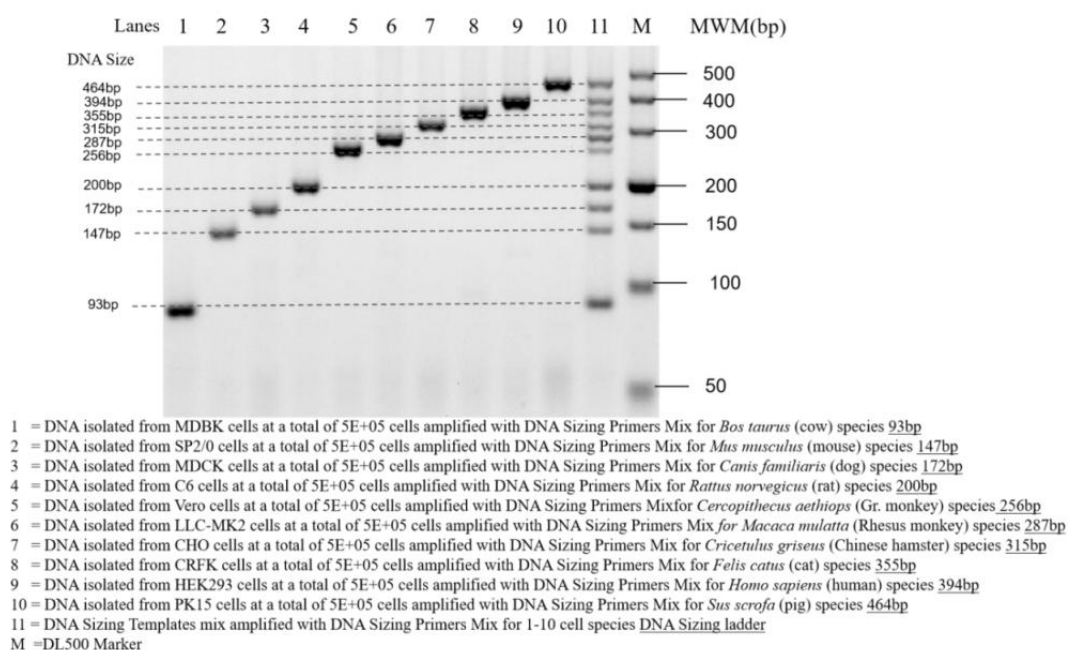

Figure 1. Identification of 10 different cell species using the kit
Note: Imaging parameters may differ among the gel imaging instruments. Make sure the 10 bands of the DNA Sizing Ladder are clear, as shown in lane 11 of Figure 1. If not, please analyze the potential causes and adjust the settings as needed.
2. DNA Sizing Ladder should be consistent with the size distribution of lane 11 in Fig. 1, with 10 clearly distinguishable bands;
3. If the test sample shows only a single distinct band matching the size of the amplification product from the template cell species (as shown in Fig. 1), the sample is considered free from contamination, and the cell species can be identified.